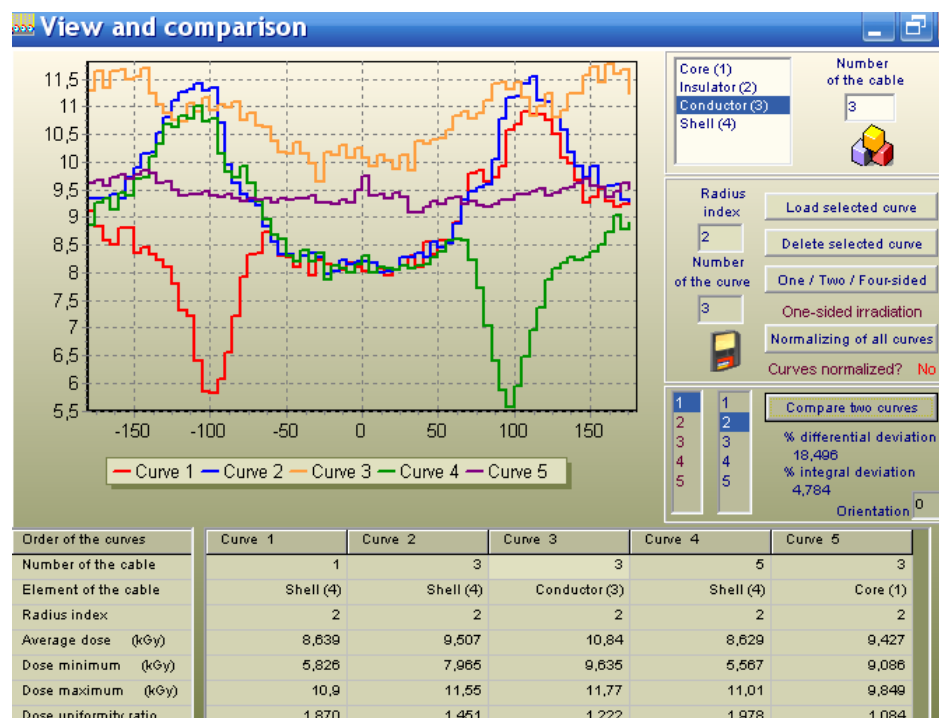

Fig.7. 2D view of the absorbed dose distribution in some sub-layers. One-sided irradiation.
- In a such way you can enter for analysis **up to 5 curves** of the **2D dose distributions** in the graph area. See Fig.7.
• Click the button **“One/Two/Four-sided”**. The graphs for the **2D dose distribution curves** at one, two or four-sided irradiation of cables/tubes will be appeared in the graph area. See Figs.7, 8,9.
See Figs.7, 8, 9.
- To do this, **choose** the numbers of 2 compared curves and **click** the button "**Compare two curves**". See Figs.7, 8,9.